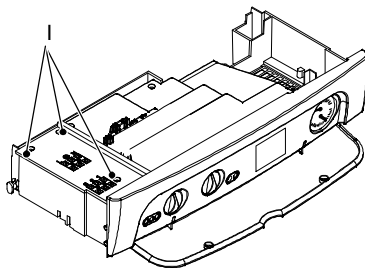

Fig. 6.11
- 5 Loosen the screws I and remove the service panel (Fig. 6.11).